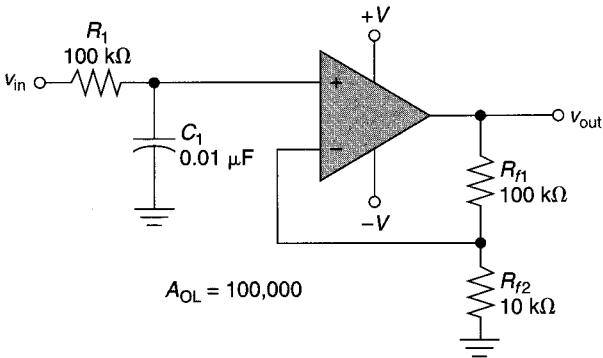

FIGURE 17.44
7. Calculate the bandwidth and closed-loop voltage gain for the filter in Figure 17.44.
8. A filter like the one in Figure 17.44 has values of  $R_1 = 82\text{ kΩ}$ ,  $C_1 = 0.015\text{ μF}$ ,  $R_{f1} = 150\text{ kΩ}$ , and  $R_{f2} = 20\text{ kΩ}$ . Calculate the bandwidth and closed-loop voltage gain of the circuit.